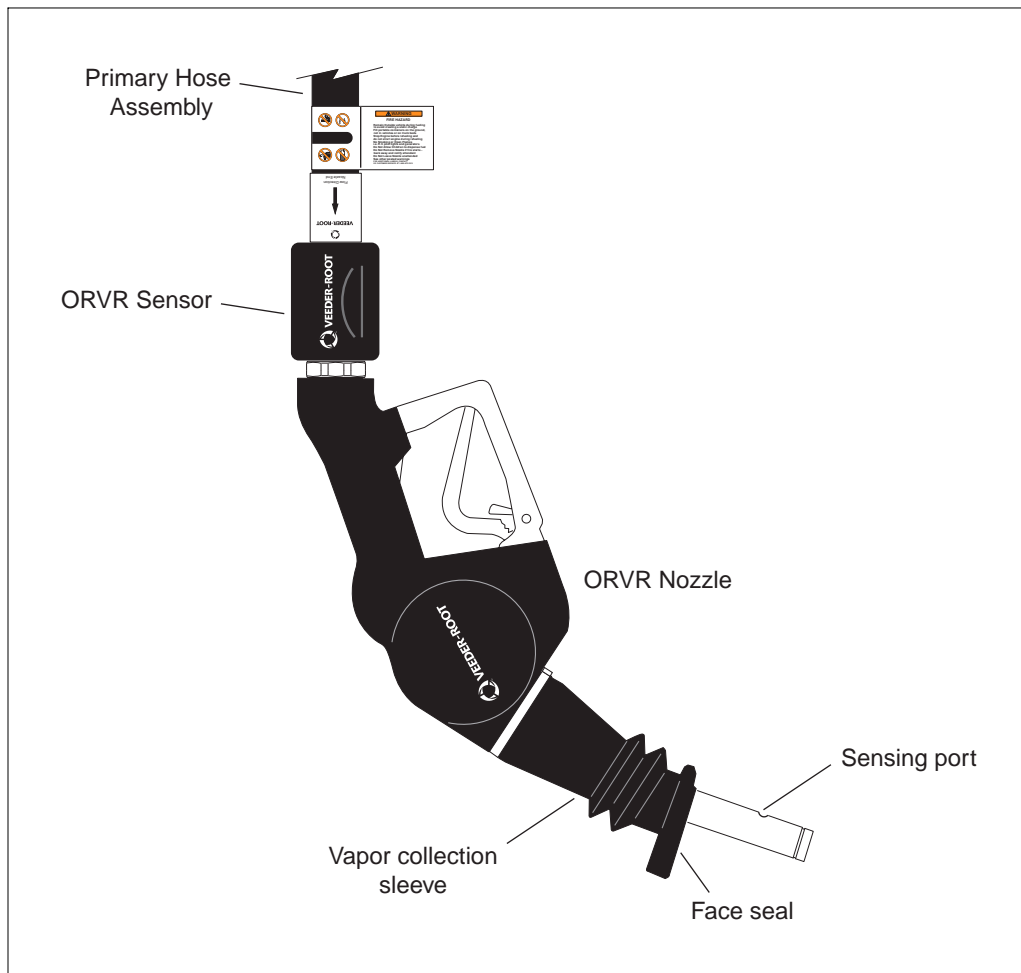

Figure 2. ORVR Sensor and Nozzle
Figure 2 illustrates additional nozzle features.
- The flow rate of the nozzle may be above the maximum allowed. United States regulations require flow rates not to exceed 10 gpm (37.8 lpm). A high flow rate may cause the sensing port to be prematurely covered with liquid (see Figure 2 on page 4).
- The nozzle's sensing port (see Figure 2 on page 4) may contain debris or foreign material.
*Solution:* Make sure the nozzle is properly inserted in fill pipe. Liquid must cover the sensing port on the underside of the spout for the nozzle to automatically shut off. (see Figure 2 on page 4).
*Solution:* Check and replace swivel nut o-ring (Figure 2 on page 4 ).